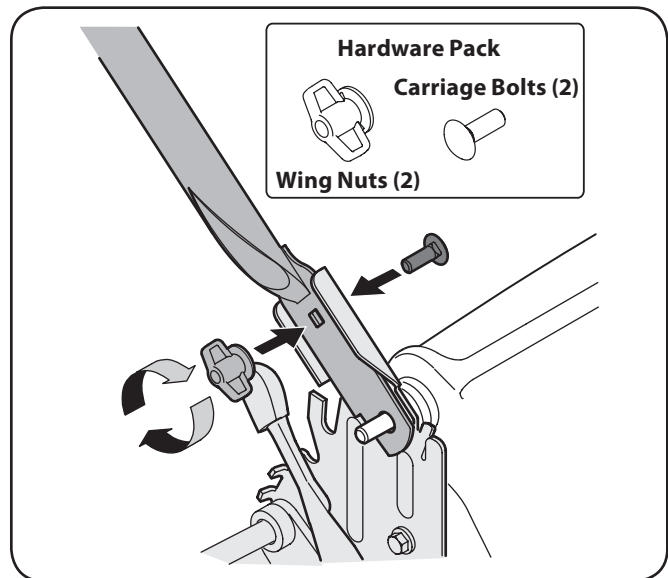

Figure 3-2
2. Insert a carriage bolt from the hardware pack into the upper hole on the handle mounting bracket. Secure with one plastic wing nut, also included in the hardware pack. See Fig. 3-2. Repeat on other side with remaining items from hardware pack.